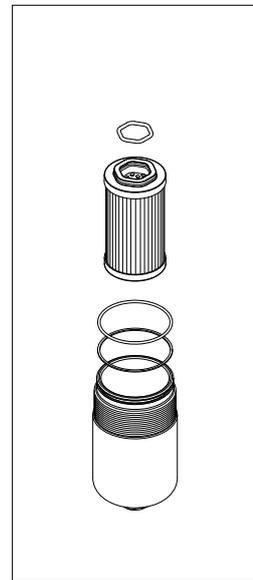

fig. 13
- (Fig. 13) Fit #1: the anti-extrusion ring and #2: the O-ring in the bowl groove, insert the Hex Ring in the filter element cap